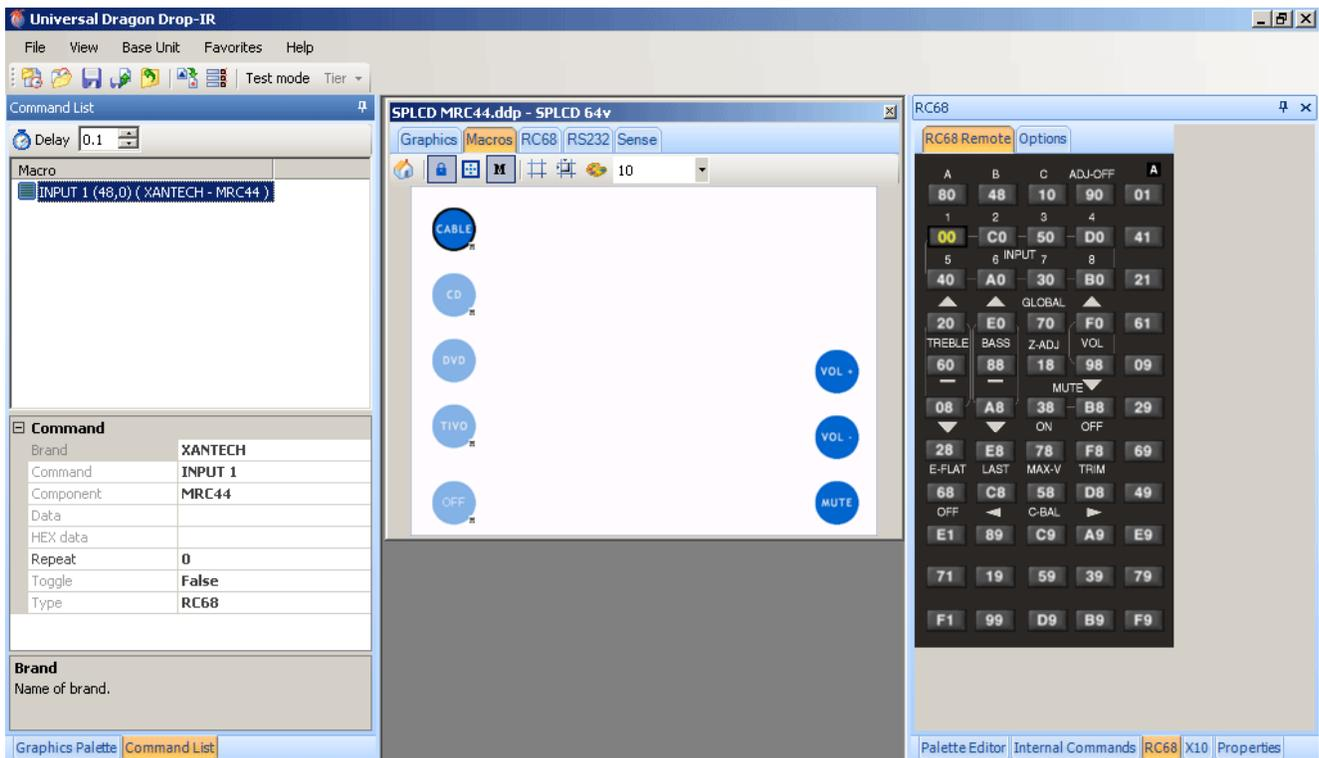

Figure 57 – SPLCD MRC44 IR Control Programming
8. In the **SPLCD System Window**, click the **Source Button GTL** that will select the component connected to **Input 1** on the **MRC44** (i.e. **Cable** as shown in **Figure 57**).